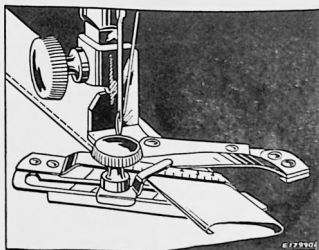

FIG. 42. SHOWING HOW ADJUSTABLE HEMMER IS USED FOR MAKING HEMS UP TO 15/16 INCH WIDE
- (3) Loosen the thumb screw on the hemmer and move the scale until the pointer registers with the number of the desired width of hem. No. 1 indicating the narrowest hem and No. 8, the widest, then tighten the thumb screw.
- (4) Place the cloth in the hemmer and draw it back and forth until the hem is formed, as shown in Fig. 42.
- (5) Draw the end of the hem back under the needle, lower the presser bar and commence to sew.
- (6) Guide sufficient cloth into the hemmer to turn the hem properly.